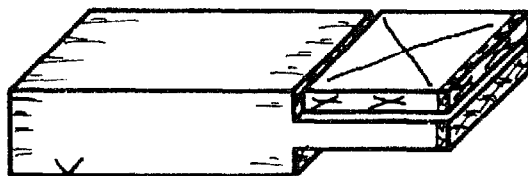

Fig. 10
- Carefully saw the shoulders, keeping the saw vertical and on the waste side of the line (Fig. 10 & 11).